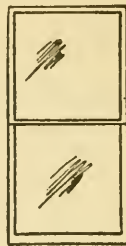

Fig. 66. Single-Light Window. Fig. 67. Two-Light Window.
**Windows.** There are various types of windows used in the construction of buildings. The plainest is the **single-light window** shown in Fig. 66. This is either pivoted, hinged, or fixed to slide.